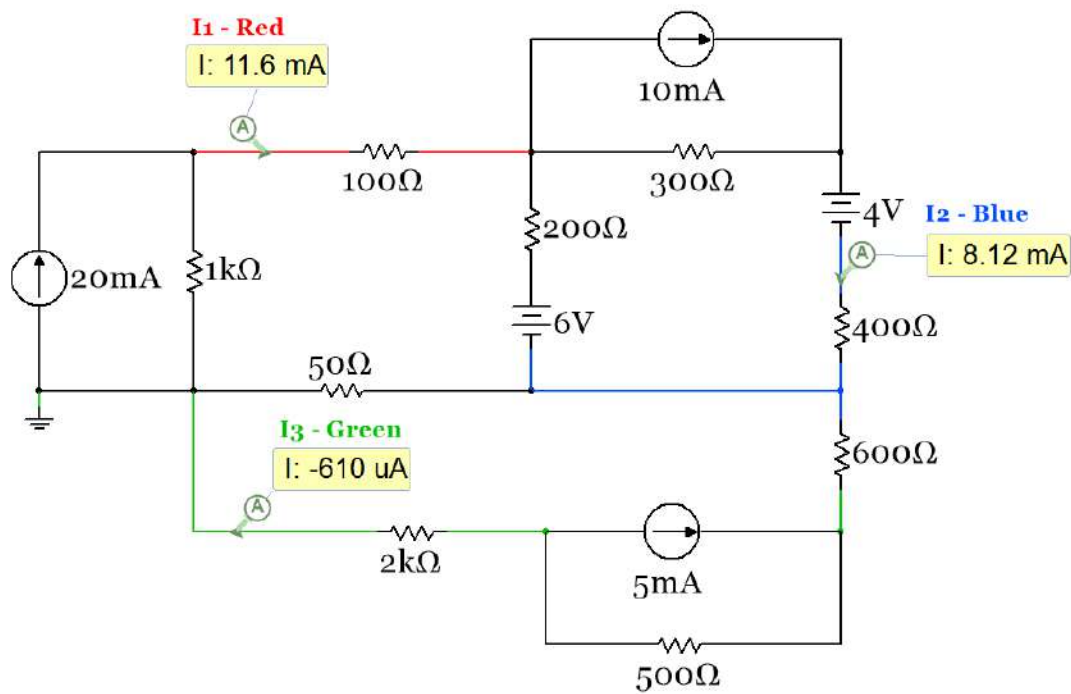

Figure 2.15: Circuit for example 2.8.
Example 2.8) Solve the circuit in Figure 2.15 for the 3 currents shown with the Multisim current probes using the Mesh Matrix Method. Source Transformations must be performed so that all sources are voltage sources.
- 3) The matrix in Figure 2.15 produces positive I1 and I2 values so those currents are clockwise. We will also assume I3 is also clockwise, but it is calculated as negative which means it is counter-clockwise.